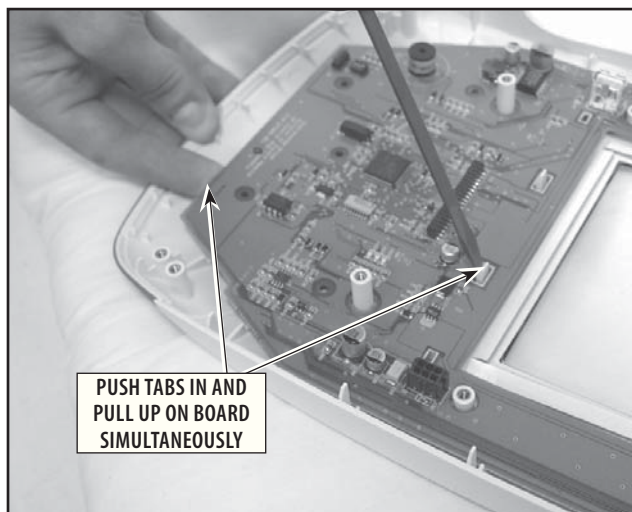

FIGURE 6.19
5. Using an orange stick or flat edged piece of plastic, carefully push locking tabs while lifting the Control Board to release Control Board from housing. **Refer to Figure 6.19.**